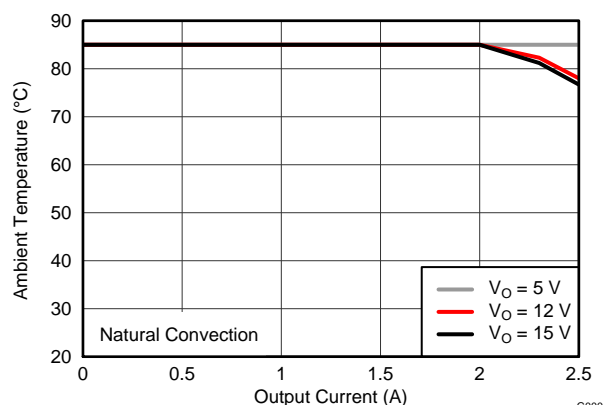

Figure 16. Safe Operating Area
- (3) The temperature derating curves represent the conditions at which internal components are at or below the manufacturer's maximum operating temperatures. Derating limits apply to devices soldered directly to a 100 mm × 100 mm double-sided PCB with 1 oz. copper. Applies to Figure 16.